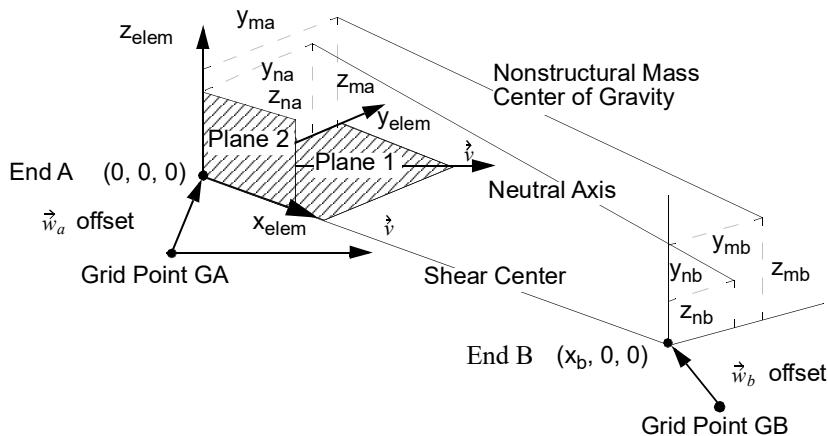

Figure 9-15 CBEAM Element Geometry System (Non p-adaptive)
PA, PB	Pin flags for beam ends A and B, respectively; used to remove connections between the grid point and selected degrees-of-freedom of the beam. The degrees-of-freedom are defined in the element's coordinate system and the pin flags are applied at the offset ends of the beam (see Figure 9-15). The beam must have stiffness associated with the PA and PB degrees-of-freedom to be released by the pin flags. For example, if PA = 4, the PBEAM entry must have a nonzero value for J, the torsional stiffness. (Up to five of the unique Integers 1 through 6 with no embedded blanks.) Pin flags are not allowed for beam p-elements. Pin flags combined with offsets are not allowed for SOL 600. Pin flags are not presently allowed in SOL 700. Also, Pin flags should not be used in nonlinear analysis when there is large displacement.
- For an additional explanation of the beam element, see the Beam Element \(CBEAM\) (p. 55) in the *MSC Nastran Reference Guide*. Figure 9-15 defines beam element geometry: